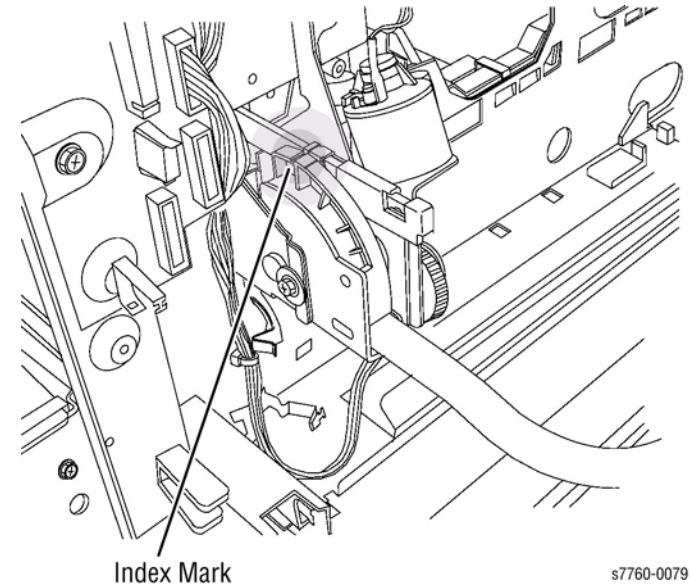

Figure 2 Index Marks
2. Slide the Main Level Gears under the Lift Jack Assembly Racks and lift into position. Verify that the Timing Marks on the IBT Cam Lever and the Lift Jack Assemblies align (Figure 2). The IBT Cam Lever Assembly requires extra pressure approximately 1" from the front of the Printer when properly aligned.